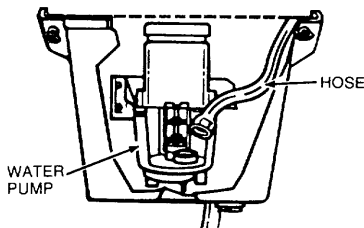

FIGURE 8
5. Remove the hose from the water pump. Clean the water inlet hose hanging in the water pan. (Figure 8)